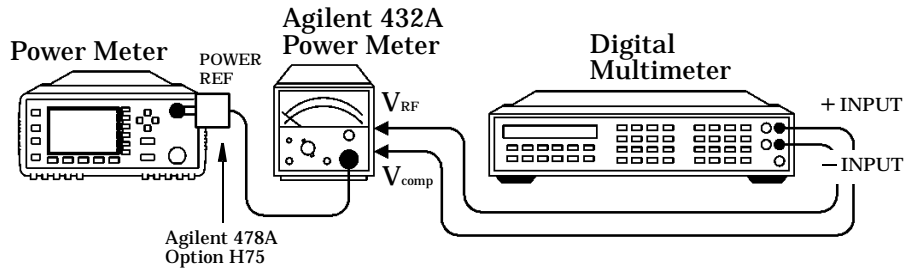

Figure 2-3: Power Reference Level Test Setup
2. Round off the DVM reading to two decimal places and record this value as the internal bridge resistance (R) of the Agilent 432A (approximately 200 Ω).
3. Connect the equipment as shown in Figure 2-3, ensuring that the DVM input leads are isolated from chassis ground.